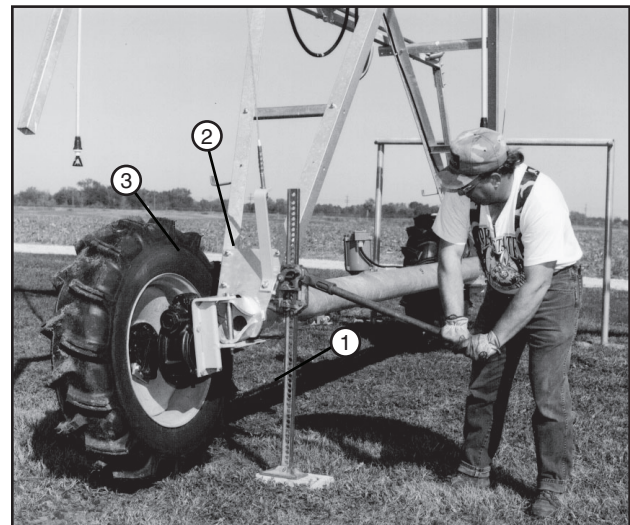

Figure 35-3 1. Jack
3. The wheels on each drive unit must be turned into the tow position. Use a jack to lift one side of the drive unit until the tire is off of the ground. See figure 35-3.